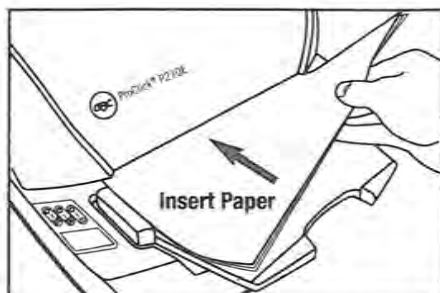

Figure 2
1. Insert the document or cover to be punched into the ProClick® P110's or P210E's punch opening. (see Figure 2)